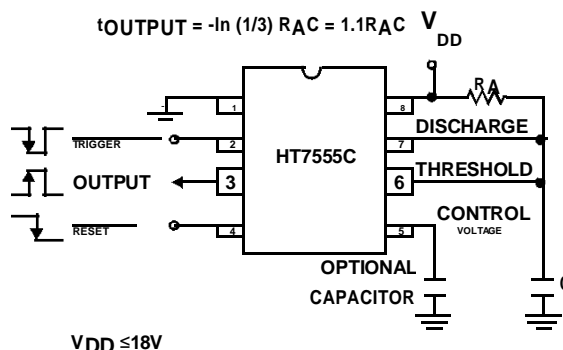

FIGURE 6. MONOSTABLE OPERATION
In this mode of operation, the timer functions as a one-shot (see Figure 6). Initially the external capacitor (C) is held discharged by a transistor inside the timer. Upon application of a negative Trigger pulse to pin 2, the internal flip-flop is set, which releases the short-circuit across the external capacitor and drives the Output high. The voltage across the capacitor now increases